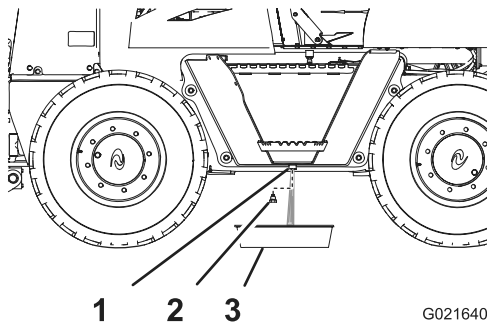

Figure 54
2. Unscrew the drain plug from the fuel tank and drain the water (Figure 54).
3. When clean fuel appears, install the drain plug and tighten it securely (Figure 54).